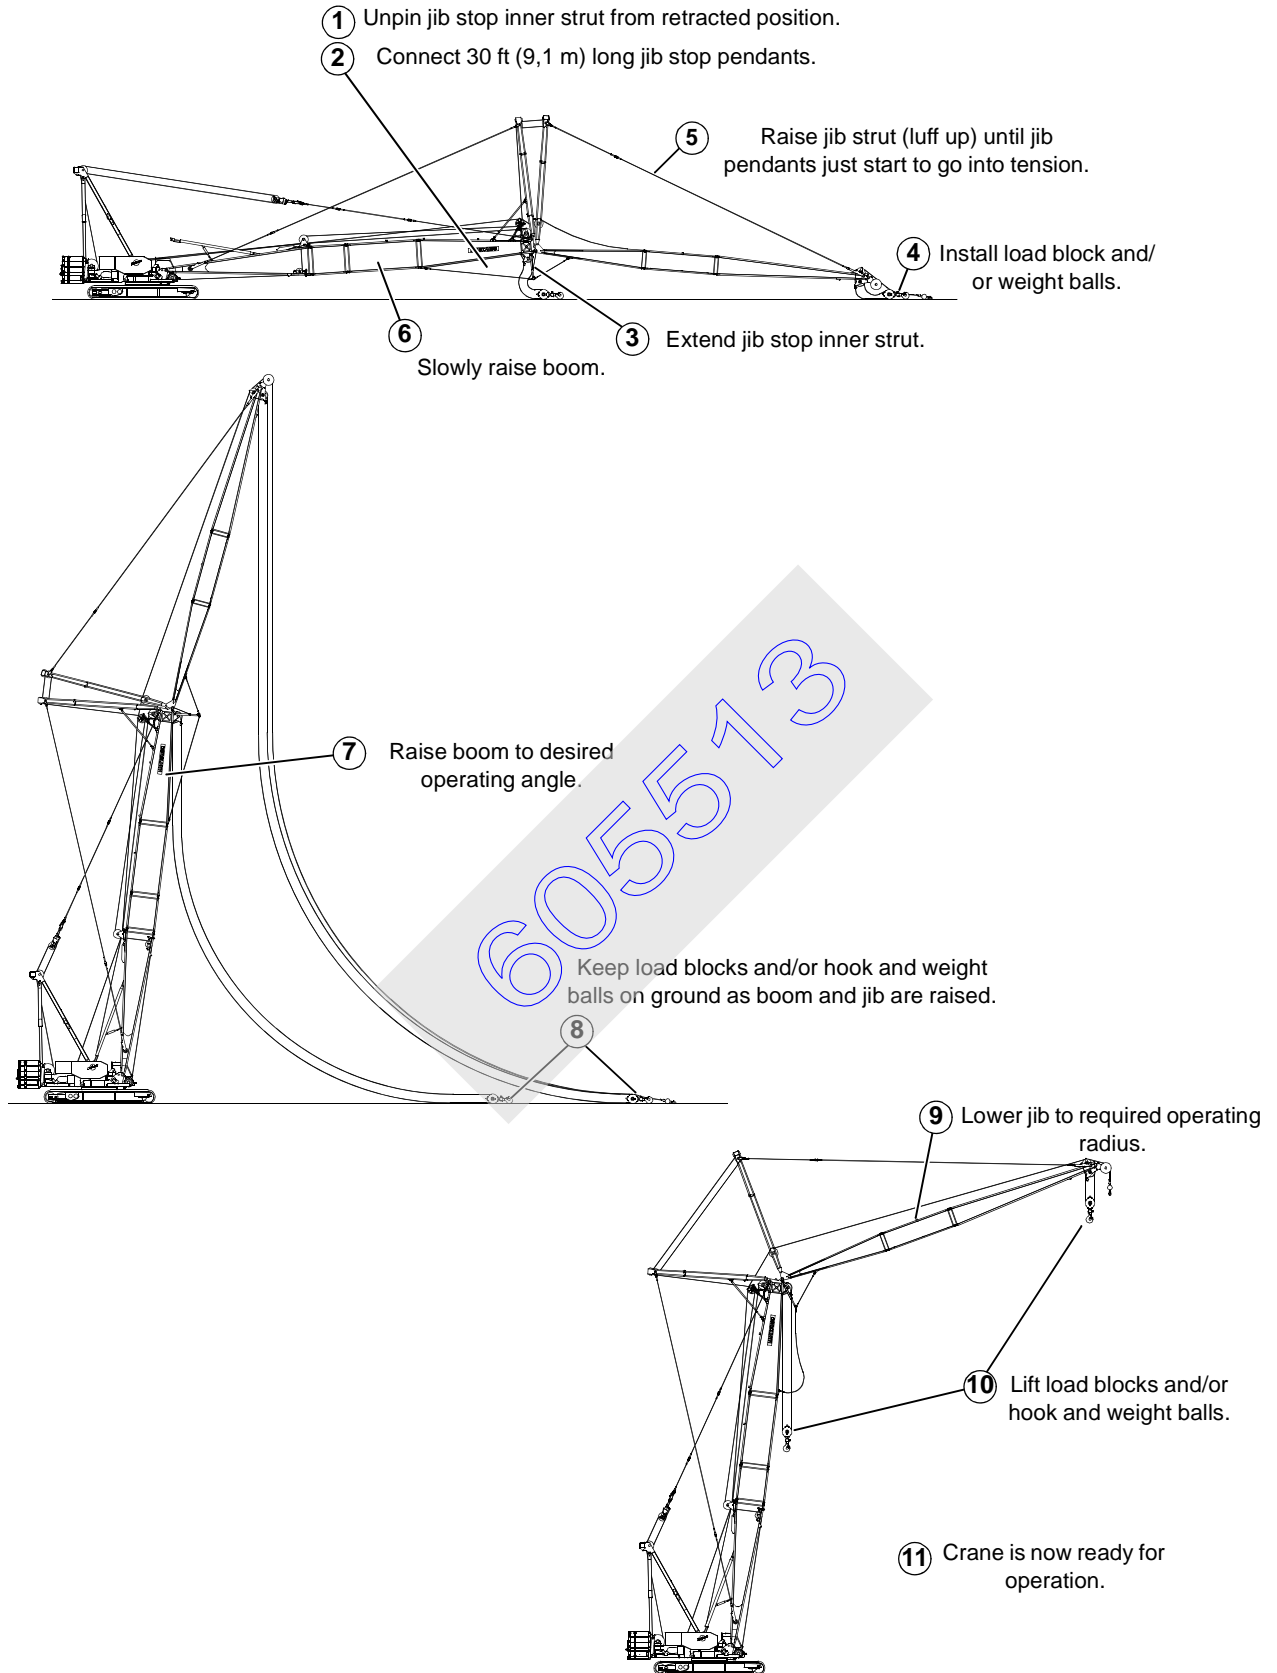

FIGURE 4-15
3. If boom and jib will be raised using **In-Line Method**, proceed as follows (Figure 4-15):